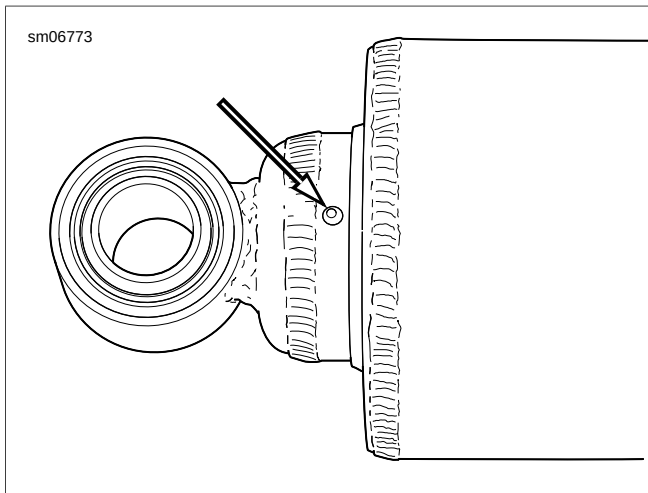

Figure 2-83. Center Punch/Drill Hole Location
2. See Figure 2-83. Center punch the reservoir between the weld and the reservoir can.